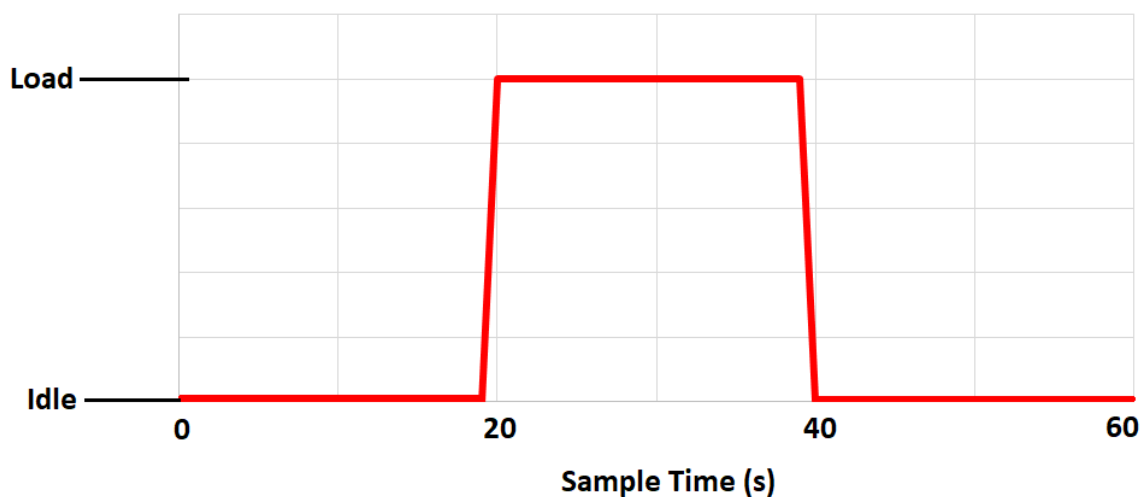

Figure 1 – Diesel particulate load cycle – Standard method
h) Testing shall be carried out over a 60 second cycle and on the undiluted raw exhaust as indicated in **Figure 1** below.